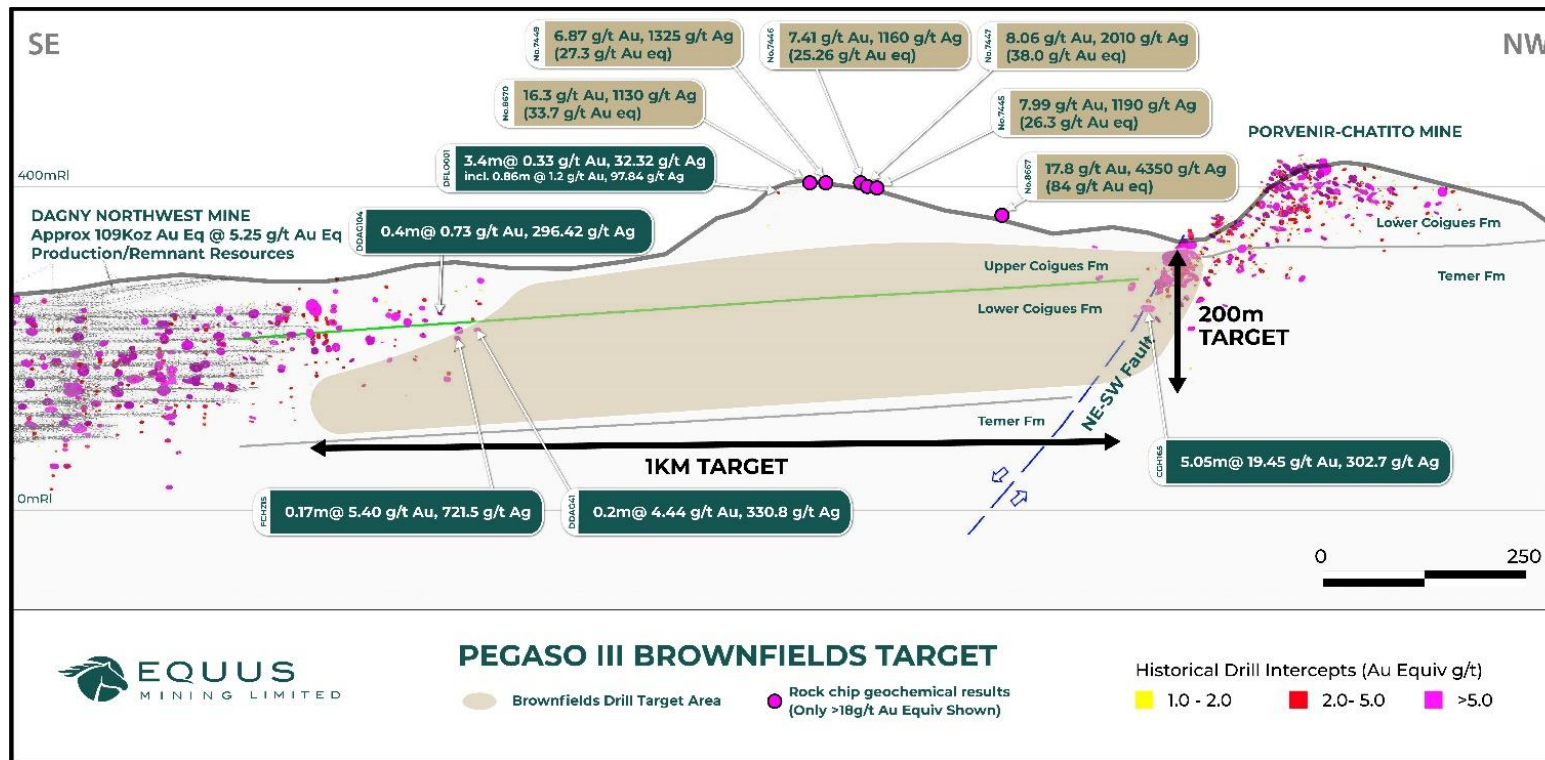

Figure 2 - Pegaso III Brownfields Target, with historical drilling results, recent rockchip sample results and target area
- ▶ 32 samples collected averaging a grade of **2.9 g/t gold and 506.5 g/t silver** including a peak value of **17.8 g/t gold and 4,350.0 g/t silver (84.7 g/t Au equivalent)** (Refer to Figure 2). The higher grade samples (generally > 3 g/t Au equivalent) report to outcropping veining along an approximate 300m long strike length below which remains largely untested by historical drilling.